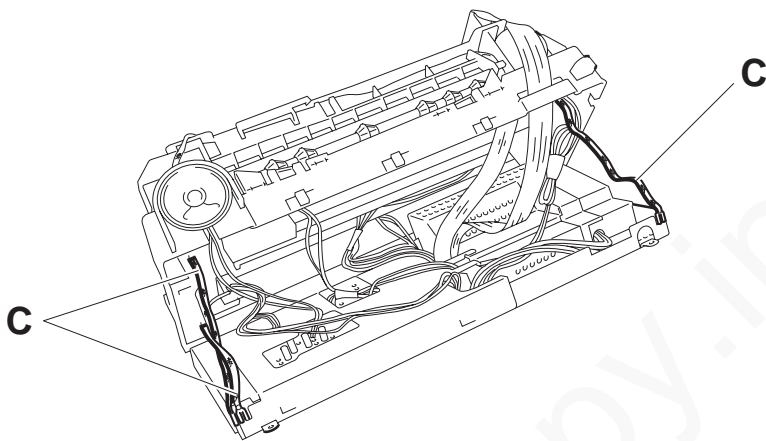

Fig. 7-13
- 4) Flip the base forward and disconnect earthing leads **C**, then remove the base from the body of the machine (Fig. 7-13):